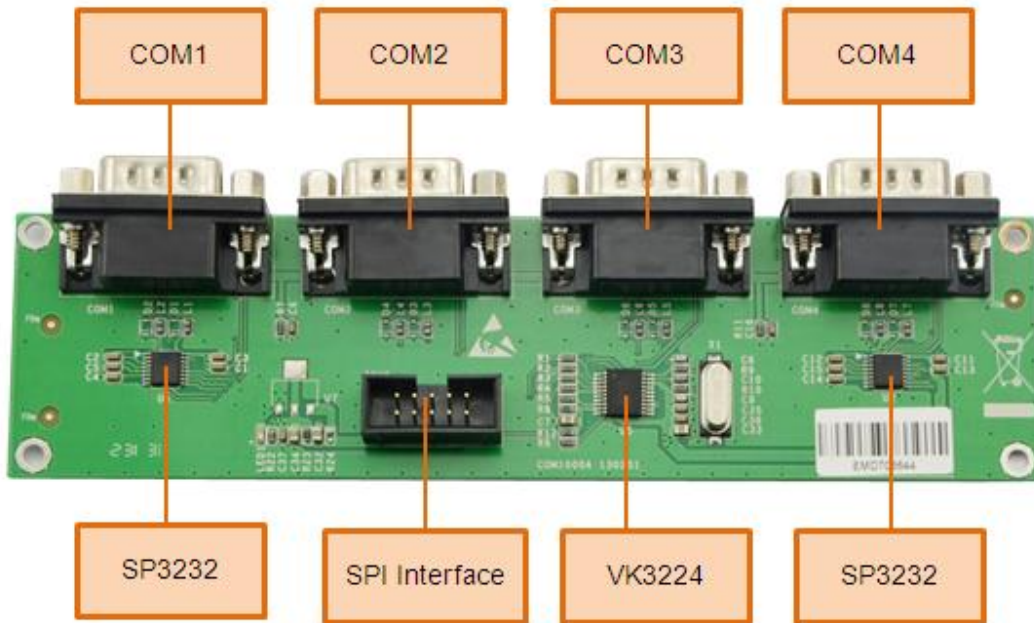

Figure 1-1 Components/Interfaces(with DB9)
- 1) Connect COM1000A to the CON10 interface (please refer to “**SPIFI/SPI**” interface on Figure 1-1 in EDM1070xx user manual) of EDM1070xx/EDM1043xx using a flat cable;